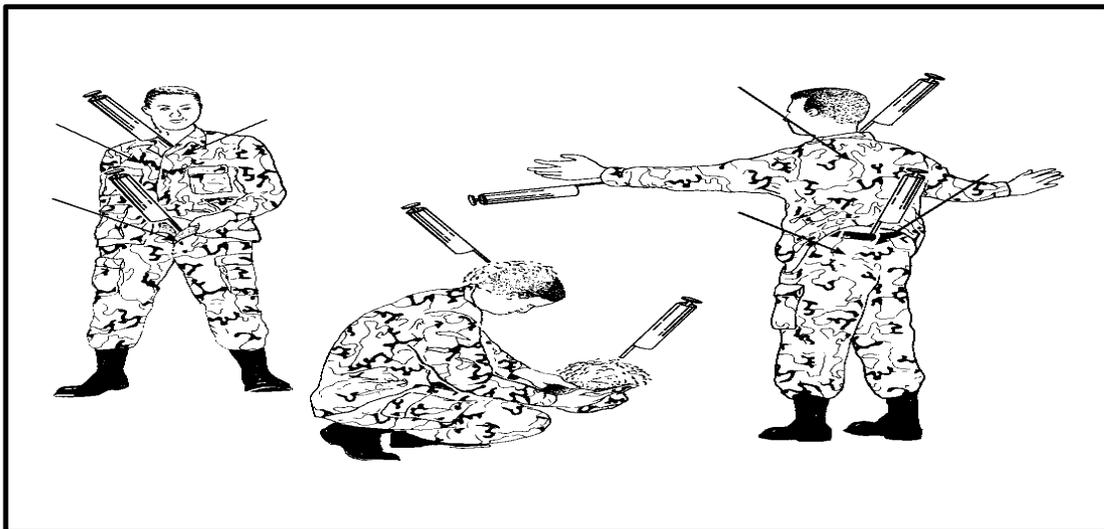

Figure 3-12. Areas for delousing personnel
- Tell a soldier to loosen collar and belt and to stand holding hat or helmet in hand as shown below in Figure 3-12. The figure shows only places where the soldier would be power fumigated.